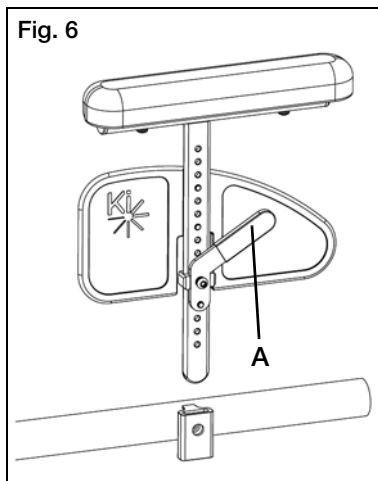

Fig. 6
- a. Push lever (Fig. 6:A) in towards side guard panel to release pin from receiver.